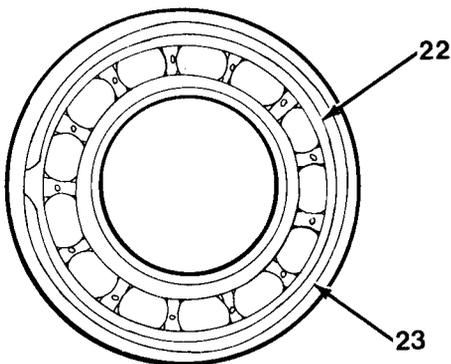

Figure 11-9
19. Remove snap ring (23) from bearing (22, Figure 11-9).